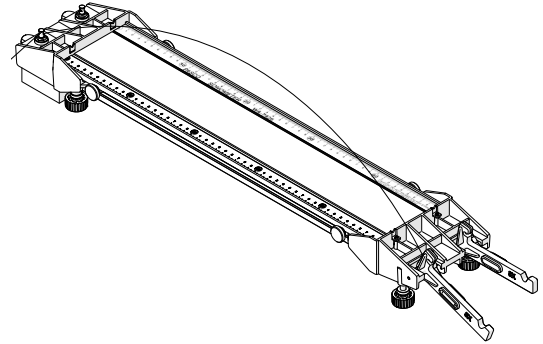

Figure 3. String bent at peg with 5 cm of slack.
4. Give the string 5 cm of slack, then bend the string at the peg (Figure 3).